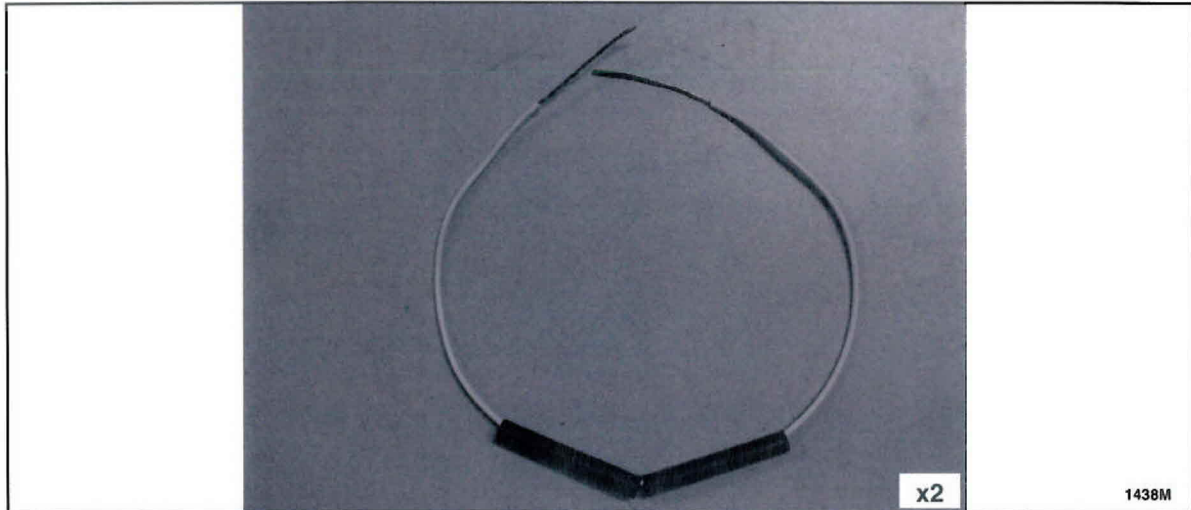

**FIGURE 7**
11. Cut the wires on each side of the splice S182 and strip off 19 mm (0.75 in) of insulation from each of the Gray/Brown wires. See Figure 7.